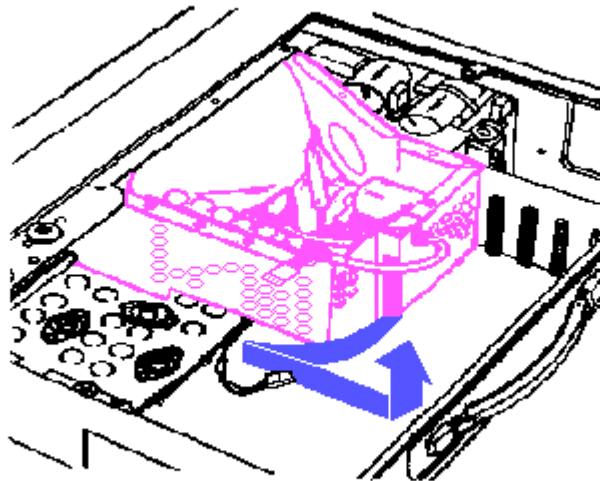

Figure 7.12-5. Positioning the Monitor Enclosure for Removal
- a. Carefully slide the monitor enclosure away from the power supply subsystem until the enclosure clears the tab in the back corner of the monitor. Then slide the enclosure back until the front of the enclosure clears the chassis (Figure 7.12-5).